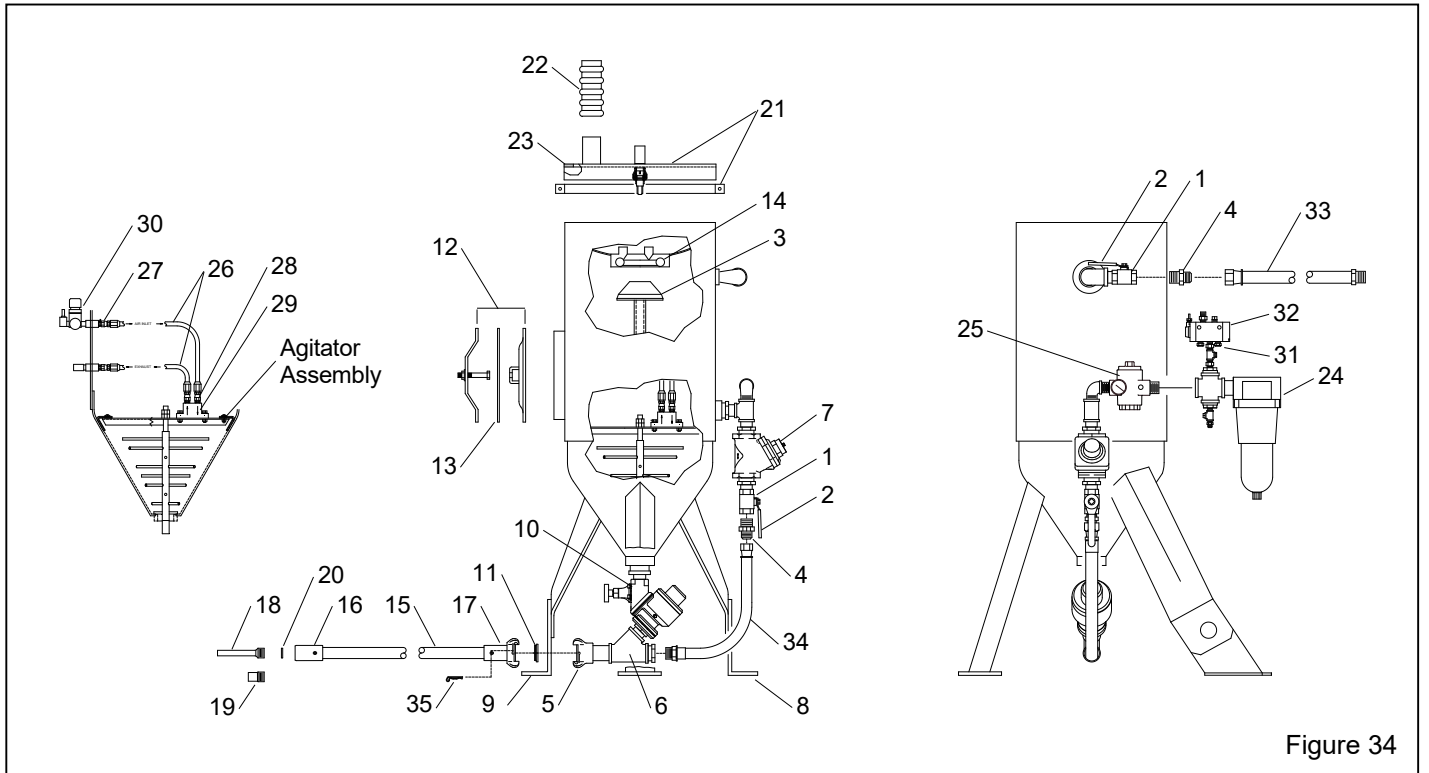

Figure 34
10.8 Blast Machine and Accessories – Figure 34